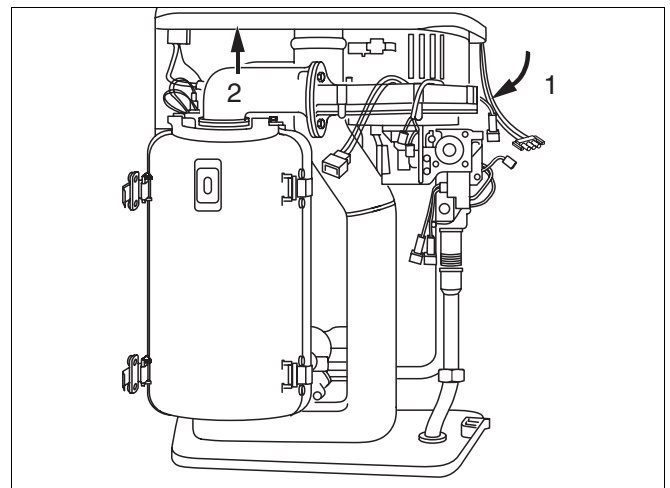

Fig. 38 Remove the gas-air unit
- Swivel the gas-air unit forward (fig. 38, item 1).
- Pull the gas-air unit up and out of bayonet connector (fig. 38, item 2) and remove via front of unit.
- Swivel the gas-air unit forward (fig. 38, item 1, page 41).
- Pull the gas-air unit up and out of bayonet connector (fig. 38, item 2, page 41) and remove via front of unit.